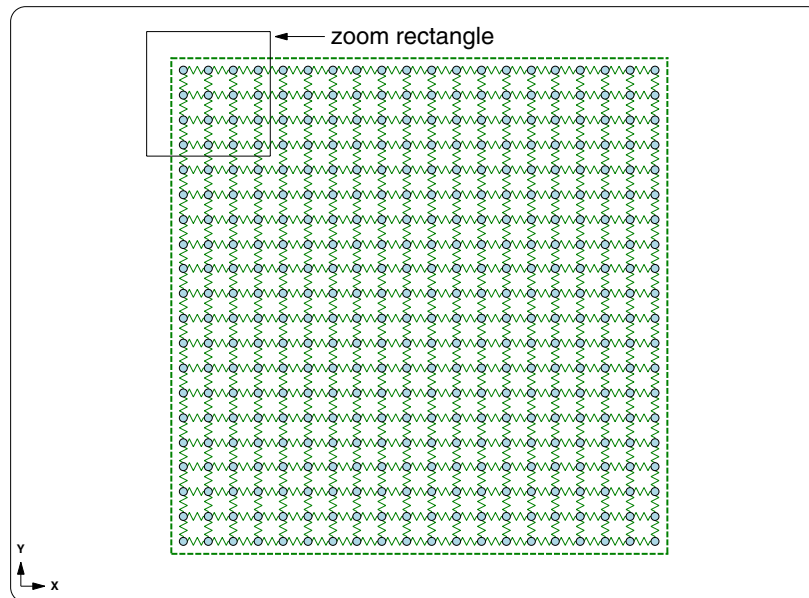

Figure 2-28: Zooming in on circuit board
Now you will do some experiments to see how important a role copper plays in allowing heat to spread throughout the circuit board. As shown in Figure 2-28 on the next page, zoom in with:
**<F3 Zoom In> → *zoom in as shown in Figure 2-28***